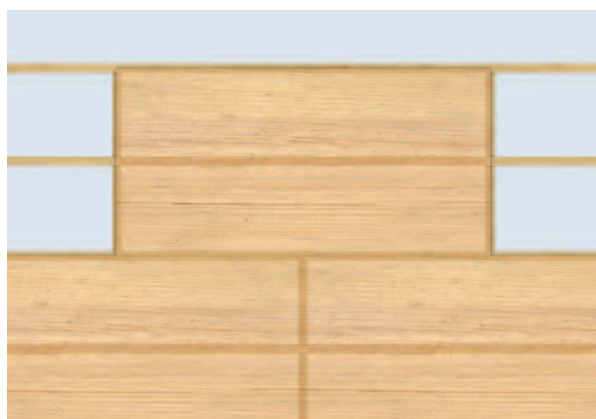

Figure 3 – Staggered joints over roof joists
- Sheets should be laid with the long edge along the joists and shorter edge joints should be staggered and butted (approximately 2 mm gap) ensuring there is a minimum bearing of 20 mm per sheet edge over the supporting timber (see Figure 3).